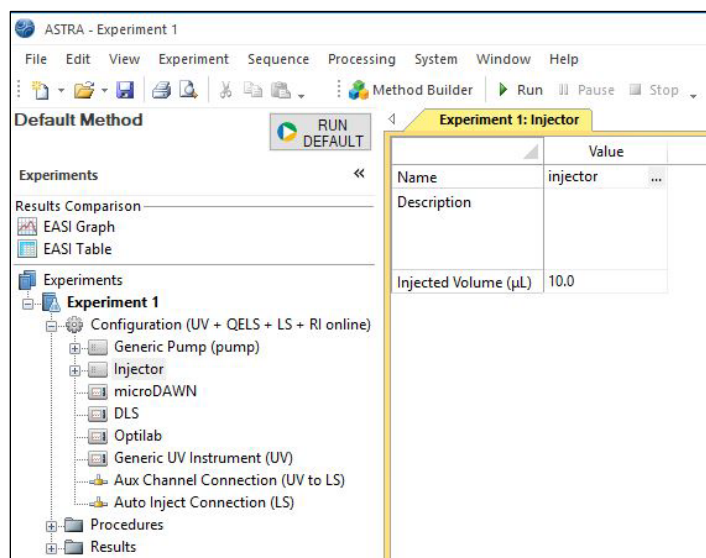

Figure 9: A screenshot of the ASTRA software with the Configuration node expanded and Injector selected.
1. Expand the experiment Configuration and double-click on Injector to define the Injected Volume \(μL\) (refer to Figure 9):